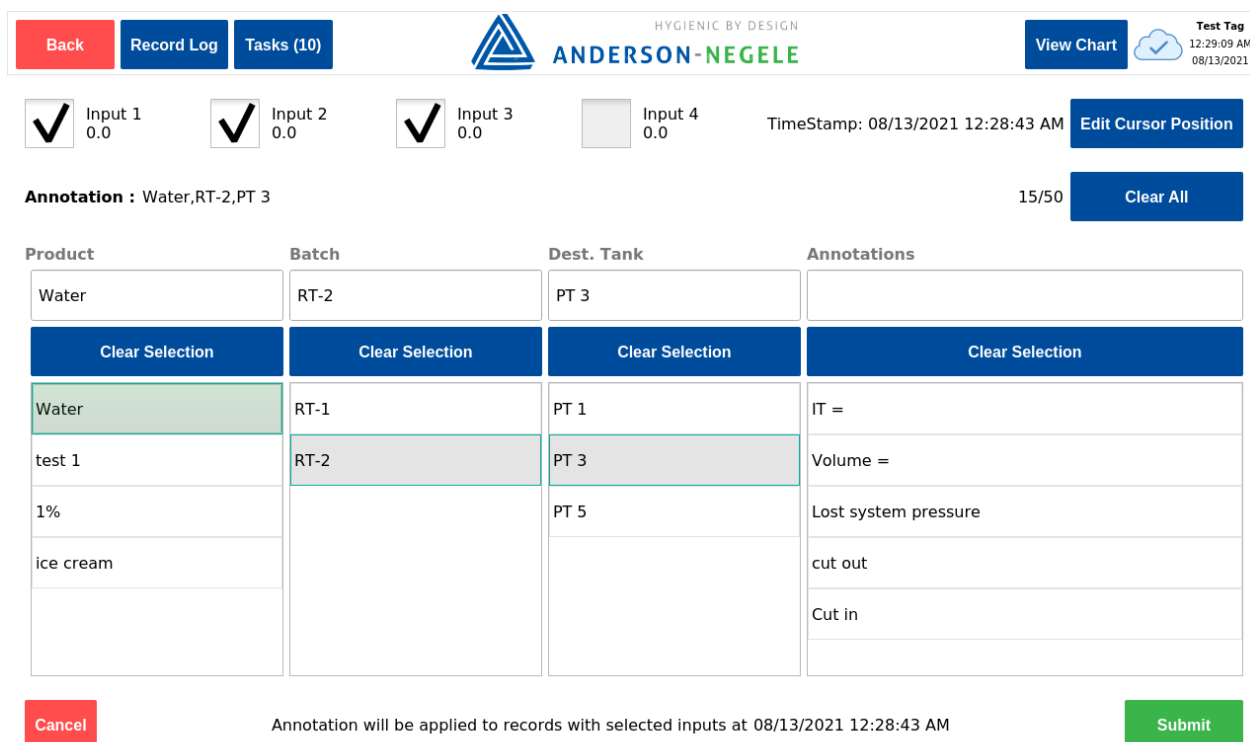

Figure 54: Selecting Multiple System Info Fields for Single Annotation
- a. In Figure 54 above the annotation will read “Water,RT-2,PT-3” followed by the initials of the user who submits